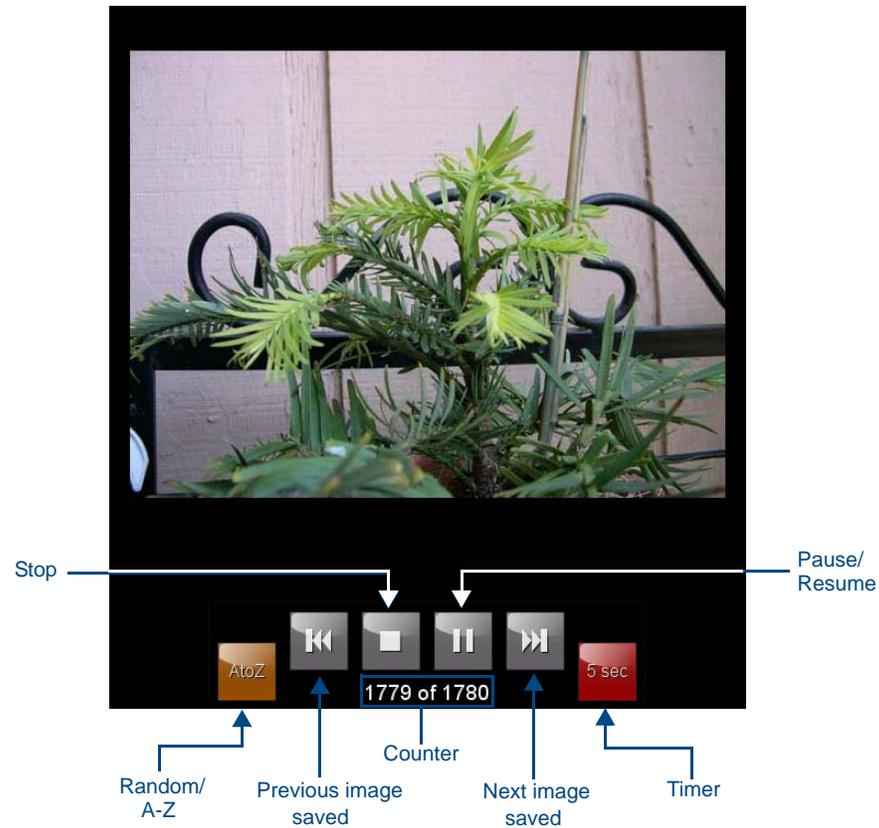

FIG. 7 Picture View configuration popup menu
2. When the images begin to display, touch any place on the touchscreen to open the configuration popup menu (FIG. 7). If no selection is made, this menu will remain in place for 15 seconds and then disappear. It may be accessed again by touching anywhere on the touchscreen.